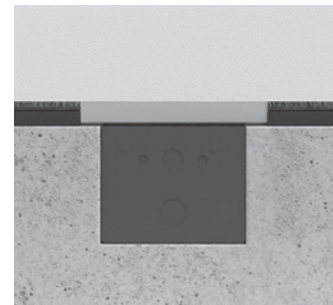

Figure 12C: Flush Grille
- Repeat this process until level. **Note:** the grille must be flush with floor surface. See Figure 12C (Flush Grille) or 12D (Surface Grille).